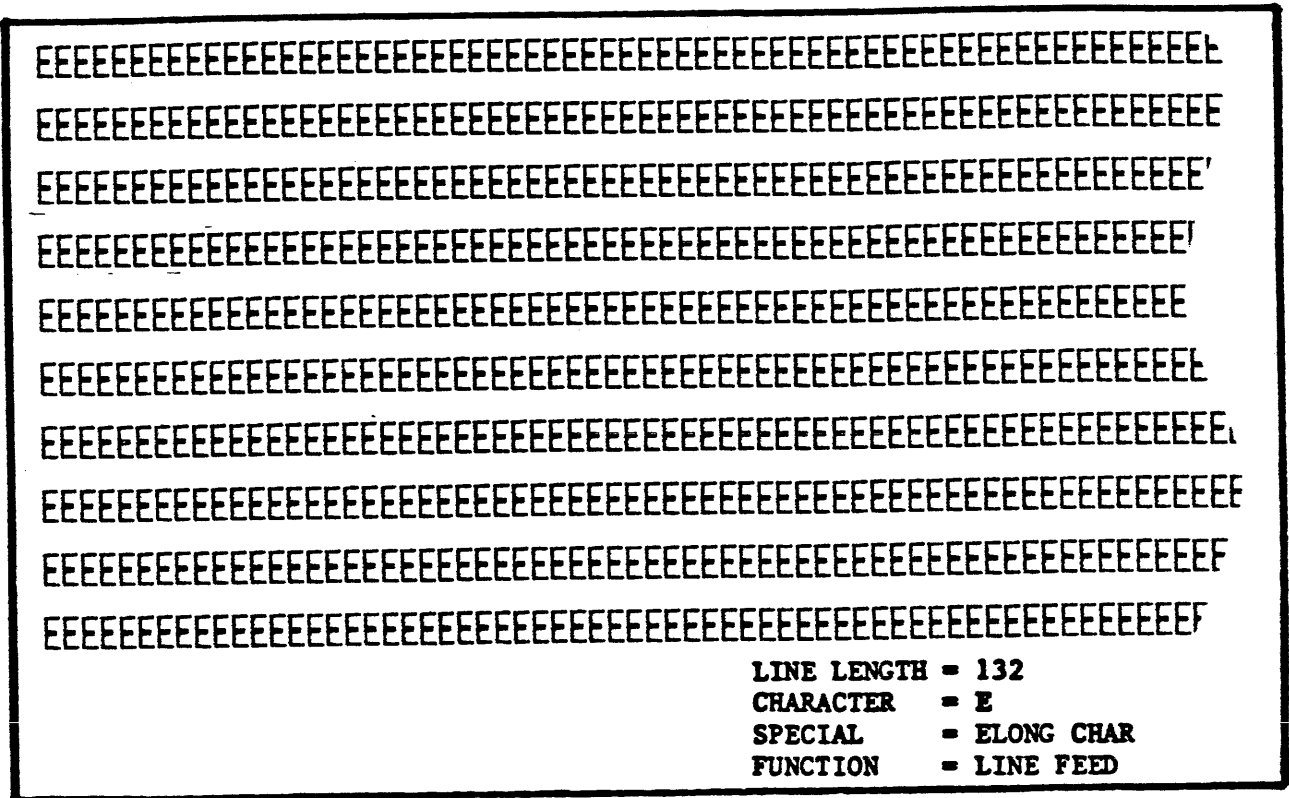

Figure 69 Letter 'E' Elongated, Sample Printout
- Function = Line Feed (LF).
- d. Examine the first and last sheet of both pages of print. Printing should be distinct and uniform with no faded characters. If the printout is not satisfactory, check the hammer tip to platen gap (refer to Section 5, subsection 5.13). See Figure 69 for sample printout.